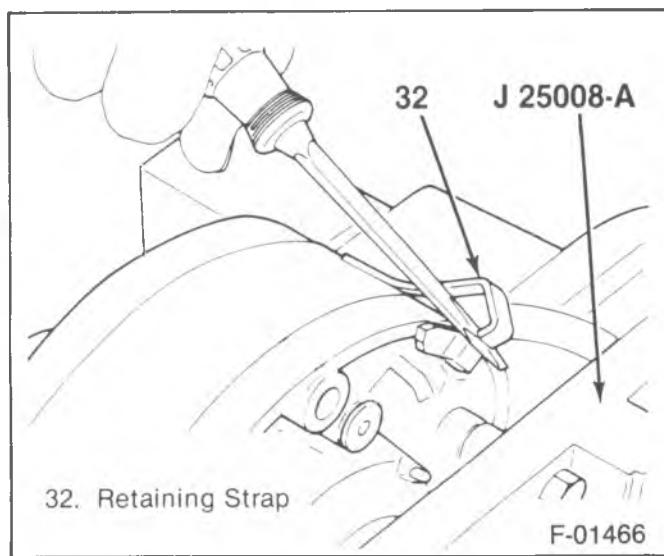

Figure 20—Releasing the Shell Retaining Strap
Remove or Disconnect (Figure 20 and 21)
1. Retainer strap by prying it up (figure 20).